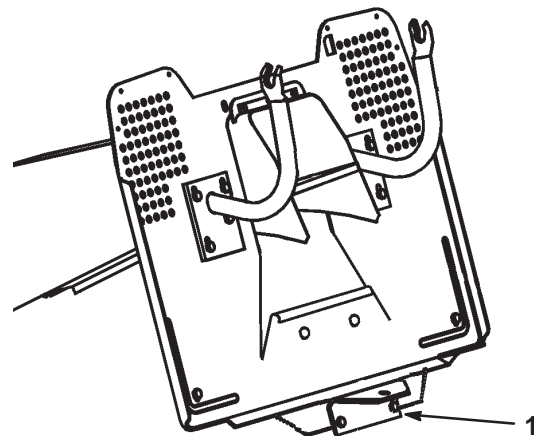

Figure 17
2. Install the attachment to the towing hitch located at the lower rear part of the tractor (Fig. 17).